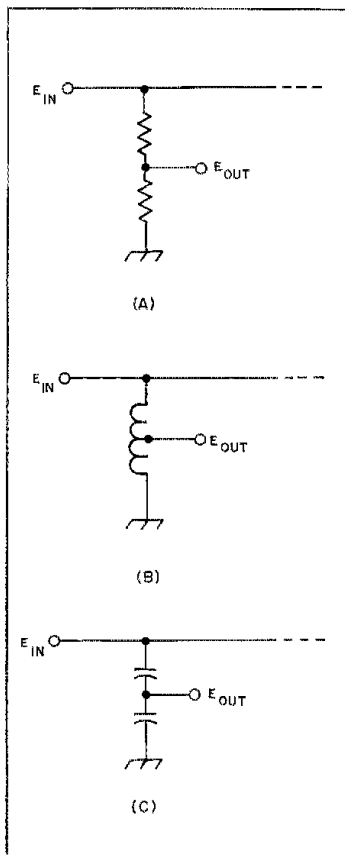

Fig. 1 — At A, a resistive voltage divider, at B, an inductive voltage divider, and at C, the capacitive voltage divider used in the IMI.
Three voltage-sampling methods are shown in Fig. 1. A resistive voltage-divider (A) may be used, but resistors tend to be troubled with shunt capacitance, and they dissipate power. The inductive or autotransformer divider (B) may be troubled with stray capacitance and self-resonance. The capacitive divider (C) was chosen as the starting point because capacitors are easily found that have low loss and little inductance (air-variable and silver-mica capacitors, for example).